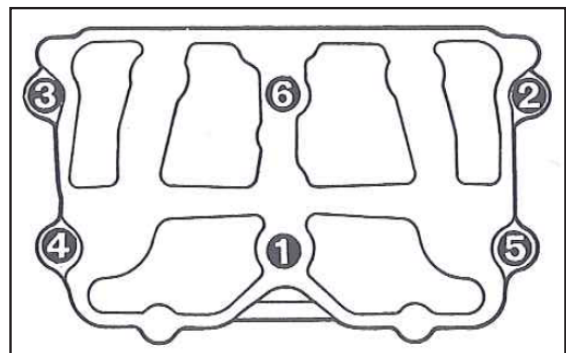

Fig. 3
2. Install the housing hold-down nuts. Tighten the nuts to 60 lbft. (80 Nm), following the sequence shown in Fig. 3.